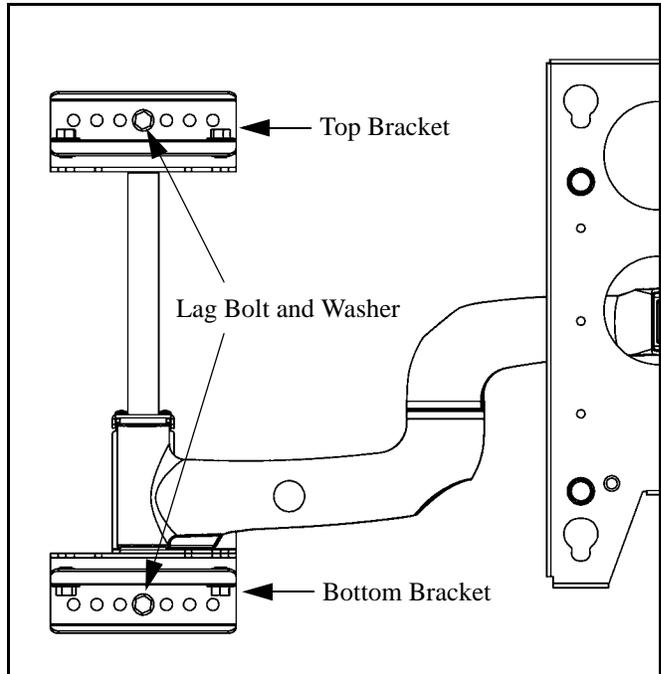

Figure 3: Install The Mount
2. In the mounting hole of your choice, install a lag bolt and flat washer in the top bracket using the pilot hole previously drilled. See Figure 3 for an example.
1. Install cover plates (20) over the top and bottom mounting brackets. (see figure 3)